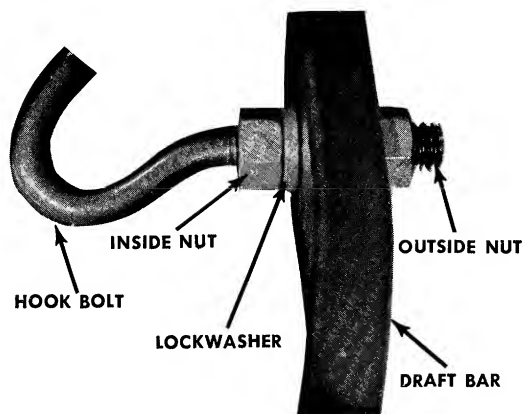

FIGURE 8. HOOK BOLT ASSEMBLY
- Step 5. Screw one hex nut all the way on each of the hook bolts. See Figure 8.
- Step 9. Tighten the inside nut. See Figure 8.